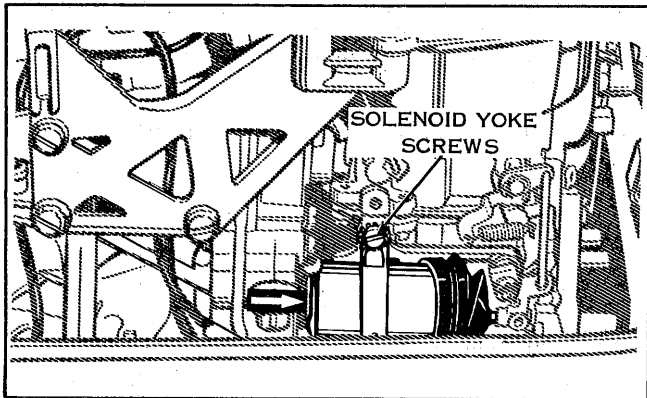

FIGURE 25
6. Adjust the choke solenoid assembly as follows: Loosen the solenoid yoke screws. Pull the manual choke knob all the way out. Push solenoid case forward until the plunger bottoms in the case, (limit of forward movement). Hold solenoid in this position and tighten upper yoke screw securely. See figure 25.